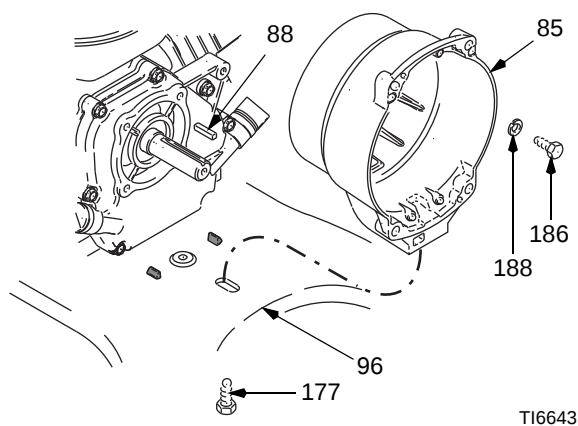

FIG. 10
1. FIG. 10. Remove four cap screws (186) and lock washers (188) which hold clutch housing (85) to engine.
2. Remove screw (177) from under mounting plate (96).
3. Pull off clutch housing (85).
1. FIG. 10. Push on clutch housing (85).
2. Install four cap screws (186) and lock washers (188) and secure clutch housing (85) to engine. Torque to 180 in-lb (20.3 N•m).
3. Install capscrew (177) from beneath mounting plate (96). Torque to 20 ft-lb (27.1 N•m).